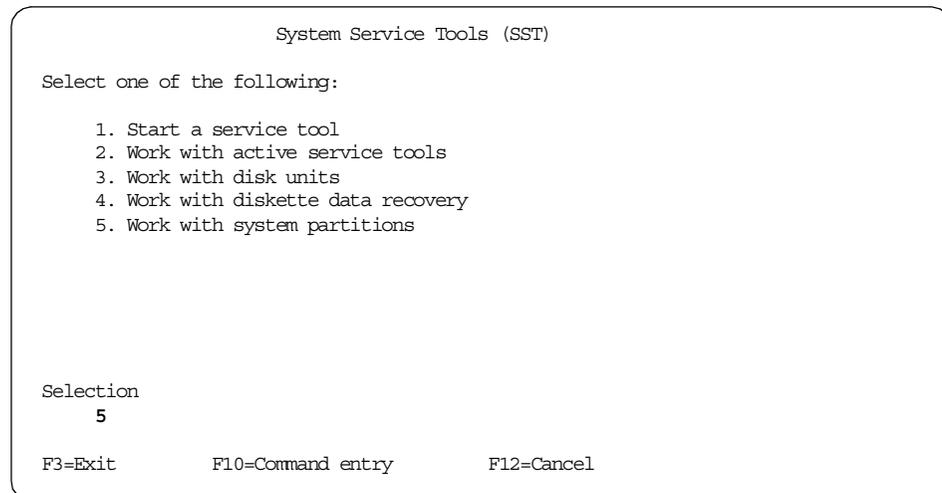

Figure 38. Going to the Partition Processing Configuration (Part 1 of 4)
2. Select option **5**, Work with system partitions (Figure 38).